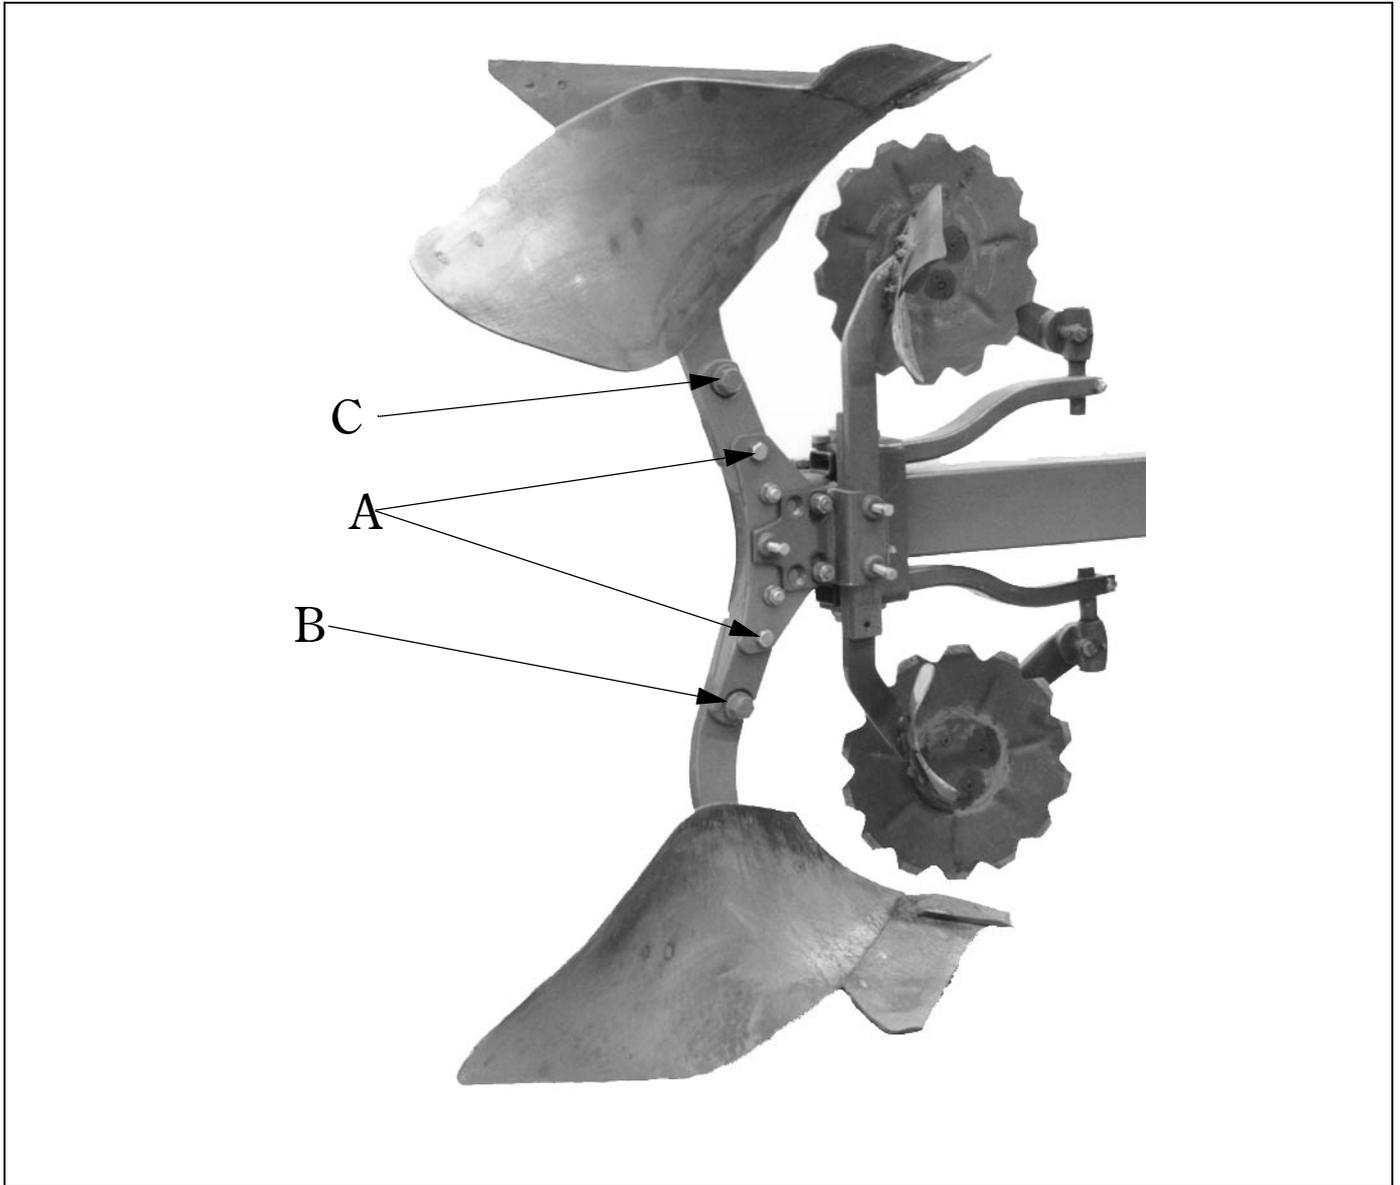

Fig. 11
Fig. 11 shows a shear bolt protected beam assembly, (A), M20.